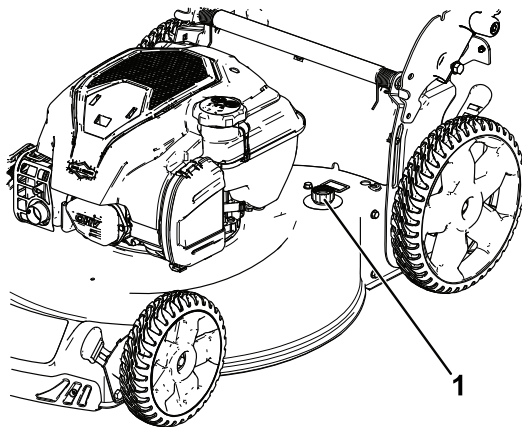

Figure 24
4. Attach a garden hose that is connected to a water supply to the washout port (Figure 24).